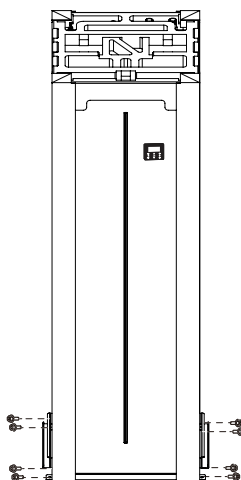

Fig.2-5
- Remove the 8 screws of the sheet metal and remove the sheet metal (Refer to Fig.2-5).